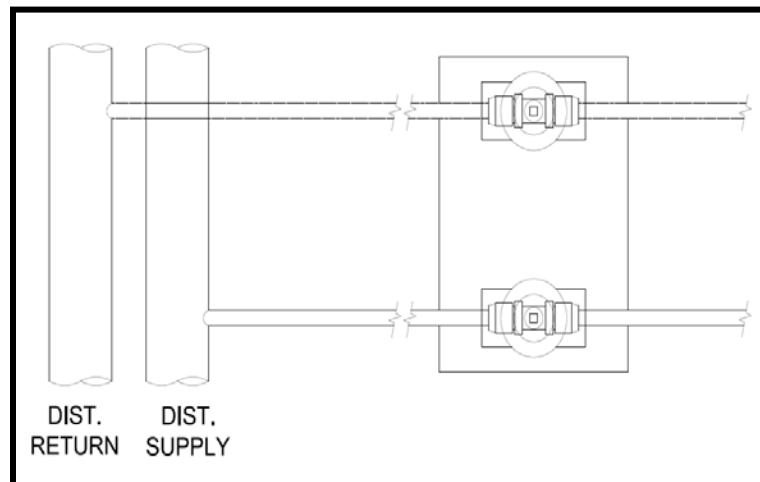

Figure 5: Curb-side valve box diagram
3.2.1.1 The curb-side valve box is the connection point to the residential system (see Figure 5). Note that the distribution supply line has a red mark just before the valve in the curb stop box.